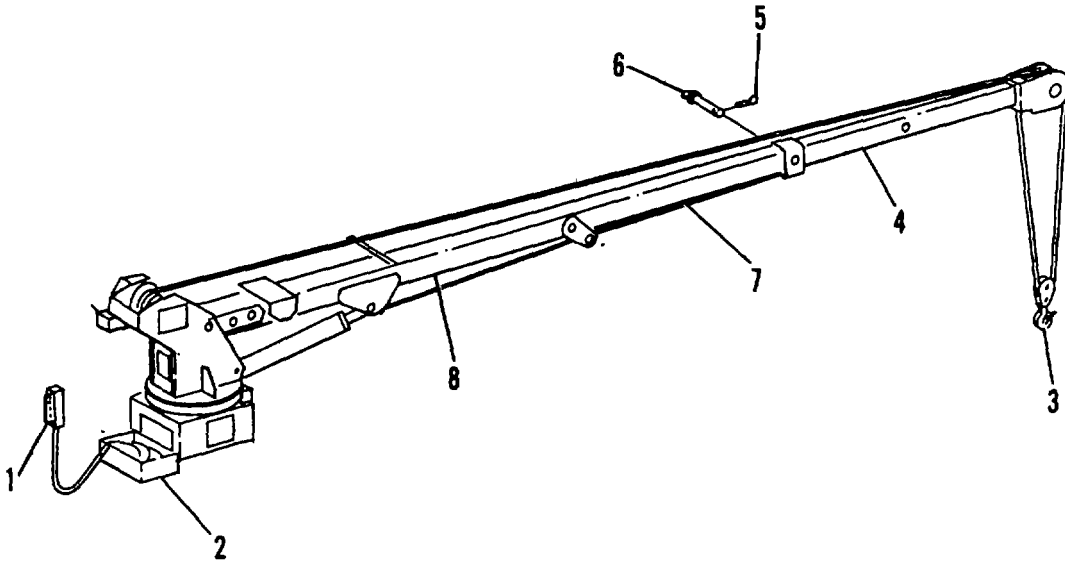

Figure 2-29. Crane Operating Instructions
- (3) Remove the remote control pendant (1, Figure 2-29) from the storage box (2) near the crane base.
- (4) Release the crane from its traveling position by moving the winch switch (5) to the DOWN position. Unwind enough wire line to relieve tension from the wire line.
(1) Retract manual extension boom as follows:
- (a) Remove clinch pin (5, figure 2-29).
- (b) Pull out the manual extension pin (6).
- (c) Rewind the hoist line while pushing in the manual-pullout extension boom (4).
- (d) Aline the pin holes and reinstall the manual extension pin (6) and clinch pin (5).
(2) Operate the remote controls (1) to retract the hydraulic extension boom (7) while rewinding the hoist line.
(3) Position the crane main boom (8) so it is centered over the boom stand.
(4) Lower the main boom until it rests onto the boom stand.
(5) Attach the crane snatch block (3) to the boom stand hook.